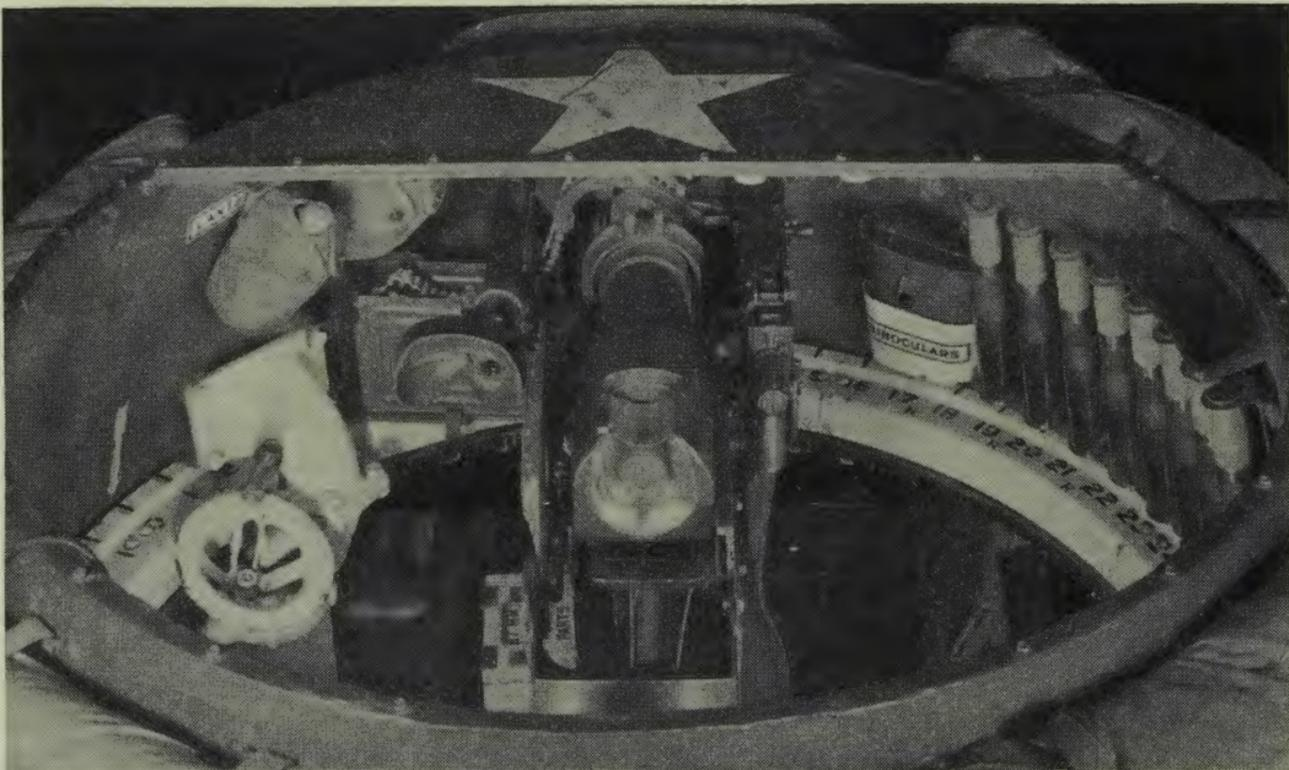

FIGURE 5.—Turret showing location of guns, sight, and other equipment.
■ 16. **GENERAL.**—The gun crew of the 37-mm antitank gun consists of the gunner who aims and fires the piece, and the car commander who controls and adjusts fire and also acts as assistant gunner and loader. See paragraphs 10 to 14, inclusive, of the appendix for duties of crew in serving the turret guns. (See fig. 5.)